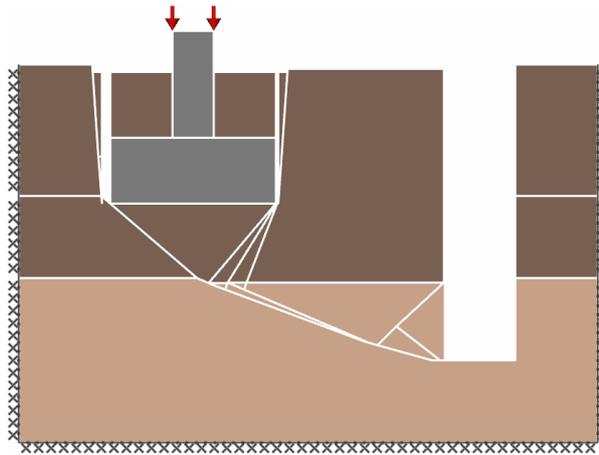

Figure 5: Failure mechanism for the problem after trench excavation
The model is now altered by the excavation of a 1.8 m deep trench, 1.0 m to the left from the footing as depicted in Figure 5.
4. In order to allow the modelling of a possible tension crack, apply the default *No-Tension Cutoff* material (available in the **Material Explorer**) to the vertical edges of the footing and also the vertical edge of the soil blocks sitting immediately above the footing. This will give no tensile strength to those boundaries. Whilst dropping the material on the footing edges, the **combined material** dialog will appear. Select the **Add** option. Note that in this case it is assumed that the blocks of soil above the footing will essentially act as part of the foundation in the failure mode as shown in Figure 5.